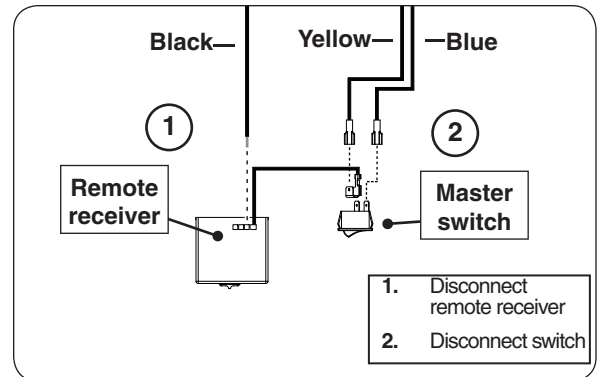

Fig. 47-1 Disconnect receiver & switch wires
3. Locate the remote receiver on the control panel, remove the 2 hex screws using a 1/4" nut driver, then pull the receiver (and bracket) out of the control panel. Disconnect the receiver and switch wires as shown in Fig. 47-1, steps 1-2.